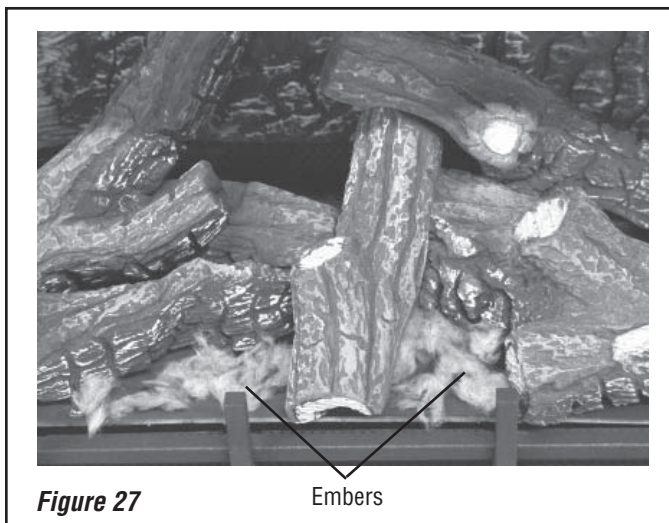

Figure 27
8. Place the glowing embers on the burner as shown in Figure 27.
IMPORTANT: The quantity and placement of the ember material can affect insert performance therefore it is very important that it be placed as shown in Figure 27.